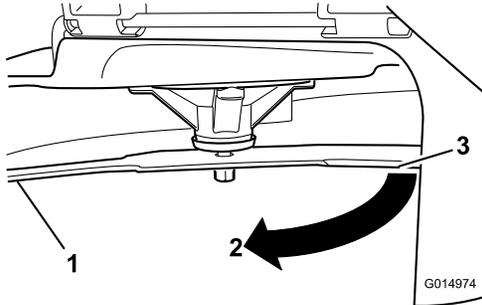

Figure 50
3. Second measured distance between blade and surface (B)
4. Rotate the same blade 180 degrees so that the opposing cutting edge is now in the same position (Figure 50).